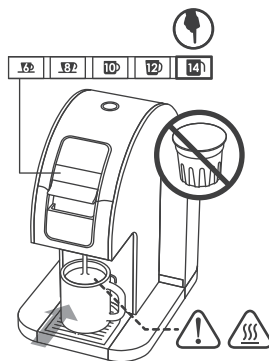
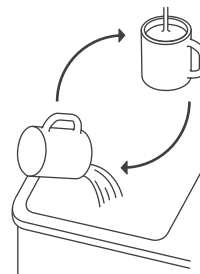

Fig. 30
Fig. 31
2. Place a large mug on the Drip Tray and press the 14 oz button without a Pod. (Fig. 30) Throw away the heated water into the sink. (Fig. 31)